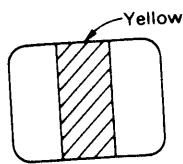

Fig. 8. Screen
- (1) Short-circuit the base and emitter of B-OUT transistor to produce yellow raster
- (2) With the deflection yoke positioned fully forward, adjust purity magnets so that the yellow vertical bar is at the centre of the screen. (Fig. 8)
- (3) Slide the deflection yoke slowly backwards to produce a uniform yellow raster.
- (4) Remove the shorting link on B-OUT transistor.
- (5) Short-circuit the base and emitter of corresponding two transistors as indicated in Table 1 to produce green, red, and blue rasters and to verify their purity, and fasten the DY screw on the deflection yoke temporarily.
- (6) Remove the shorting leads from respective transistors.
- (1) Short-circuit the base and emitter of B-OUT transistor to produce yellow raster.
- (2) Loosen the deflection yoke screw and move it forwards and check that the yellow vertical bar is at the horizontal centre. (Fig. 8)
- (3) If necessary, adjust purity magnets.
- (4) Slide the yoke backwards to produce a uniform yellow raster.